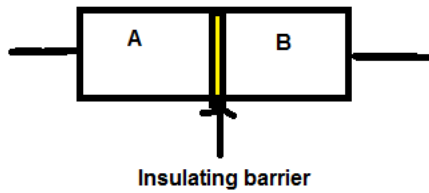

Figure 10
1) **DC Josephson effect:** Two superconductors A and B are separated by a thin insulating layer of 10 nm thickness (figure 10). When the thickness of the